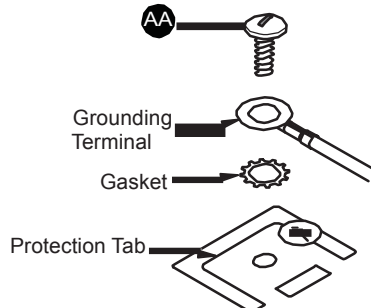

Figure 4 - Installing Grounding Terminal to Top Cover
4. Attach the grounding terminal to top cover with 1) M4.2X8 screw (AA). Refer to wiring diagram, page 15. Be sure to insert the gasket between the protection tab and the grounding terminal (see Figure 4).